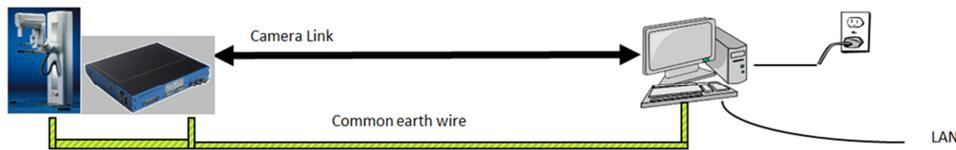

Figure 20: Protective earth between detector and PC. The same applied to GigE.
- Common protective earth between the detector and the PC, in addition to protective earthing to the medical system (for both CL and GigE, Figure 20).